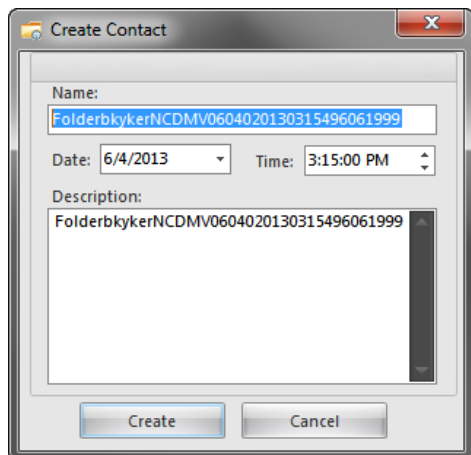

Figure 34. Create Contact Dialog Box
2. Click **New Contact** on the Forms Manager **File** tab. The **Create Contact** dialog box opens with default content displayed, as shown in Figure 34.